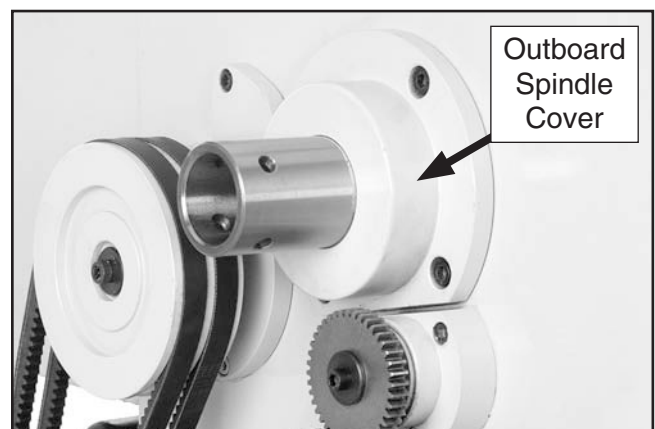

Figure 53. Outboard spindle cover.
3. Remove the chuck, shift the spindle to neutral, then remove the outboard spindle cover (**Figure 53**).